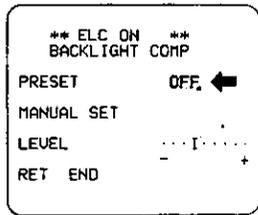

Fig. 57
- The field setup menu is displayed on the monitor screen as shown in Fig. 57.
- After masking is completed, press the Setup Mode Button (SET UP) for more than 2 seconds and the 25 Mask Areas on the monitor screen disappears and the field setup menu shown in Fig. 57 is then displayed.